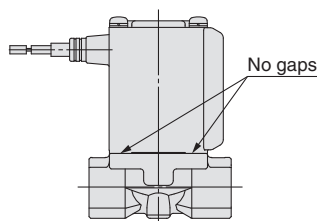
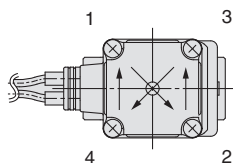

Fig.1
Fig.2
- Push the coil assembly against the body and tighten the screws two or more rounds diagonally (Fig. 2) in the status that there are no gaps between the coil assembly and body (Fig. 1).
\* After tightening the screws, make sure that there are no gaps between the coil and body (Fig. 1).